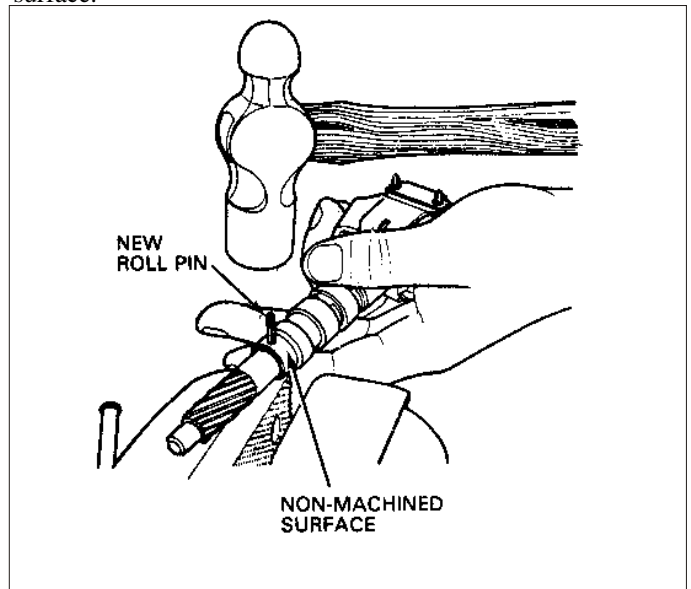

Figure 6
6. Tap in new roll pin. Do not reuse the old roll pin (Figure 6).